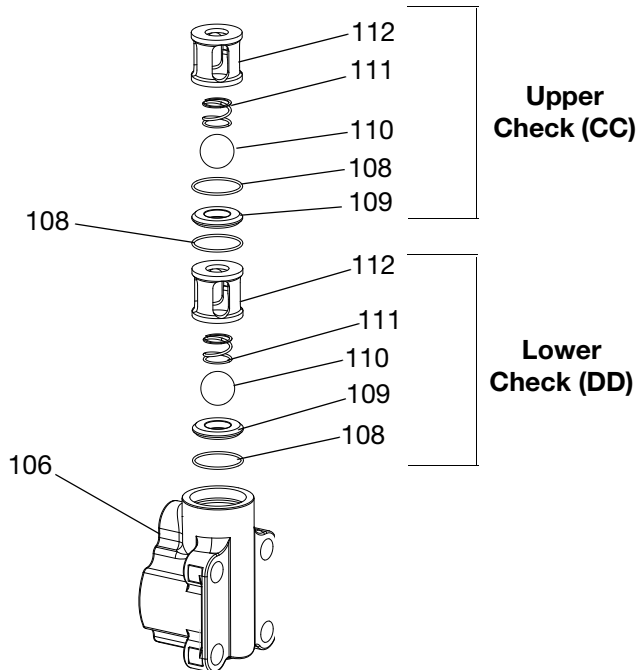

FIG. 6
- Remove upper check (CC) ball cage (112), check ball spring (111), ball (110), O-ring (108) and carbide seat (109).
- Press lower ball (110) off seat (109) from fluid inlet and drain the inlet housing (106).
- Remove lower check (DD) O-ring (108), ball cage (112), check ball spring (111), ball (110), carbide seat (109), and O-ring (108). See FIG. 6.